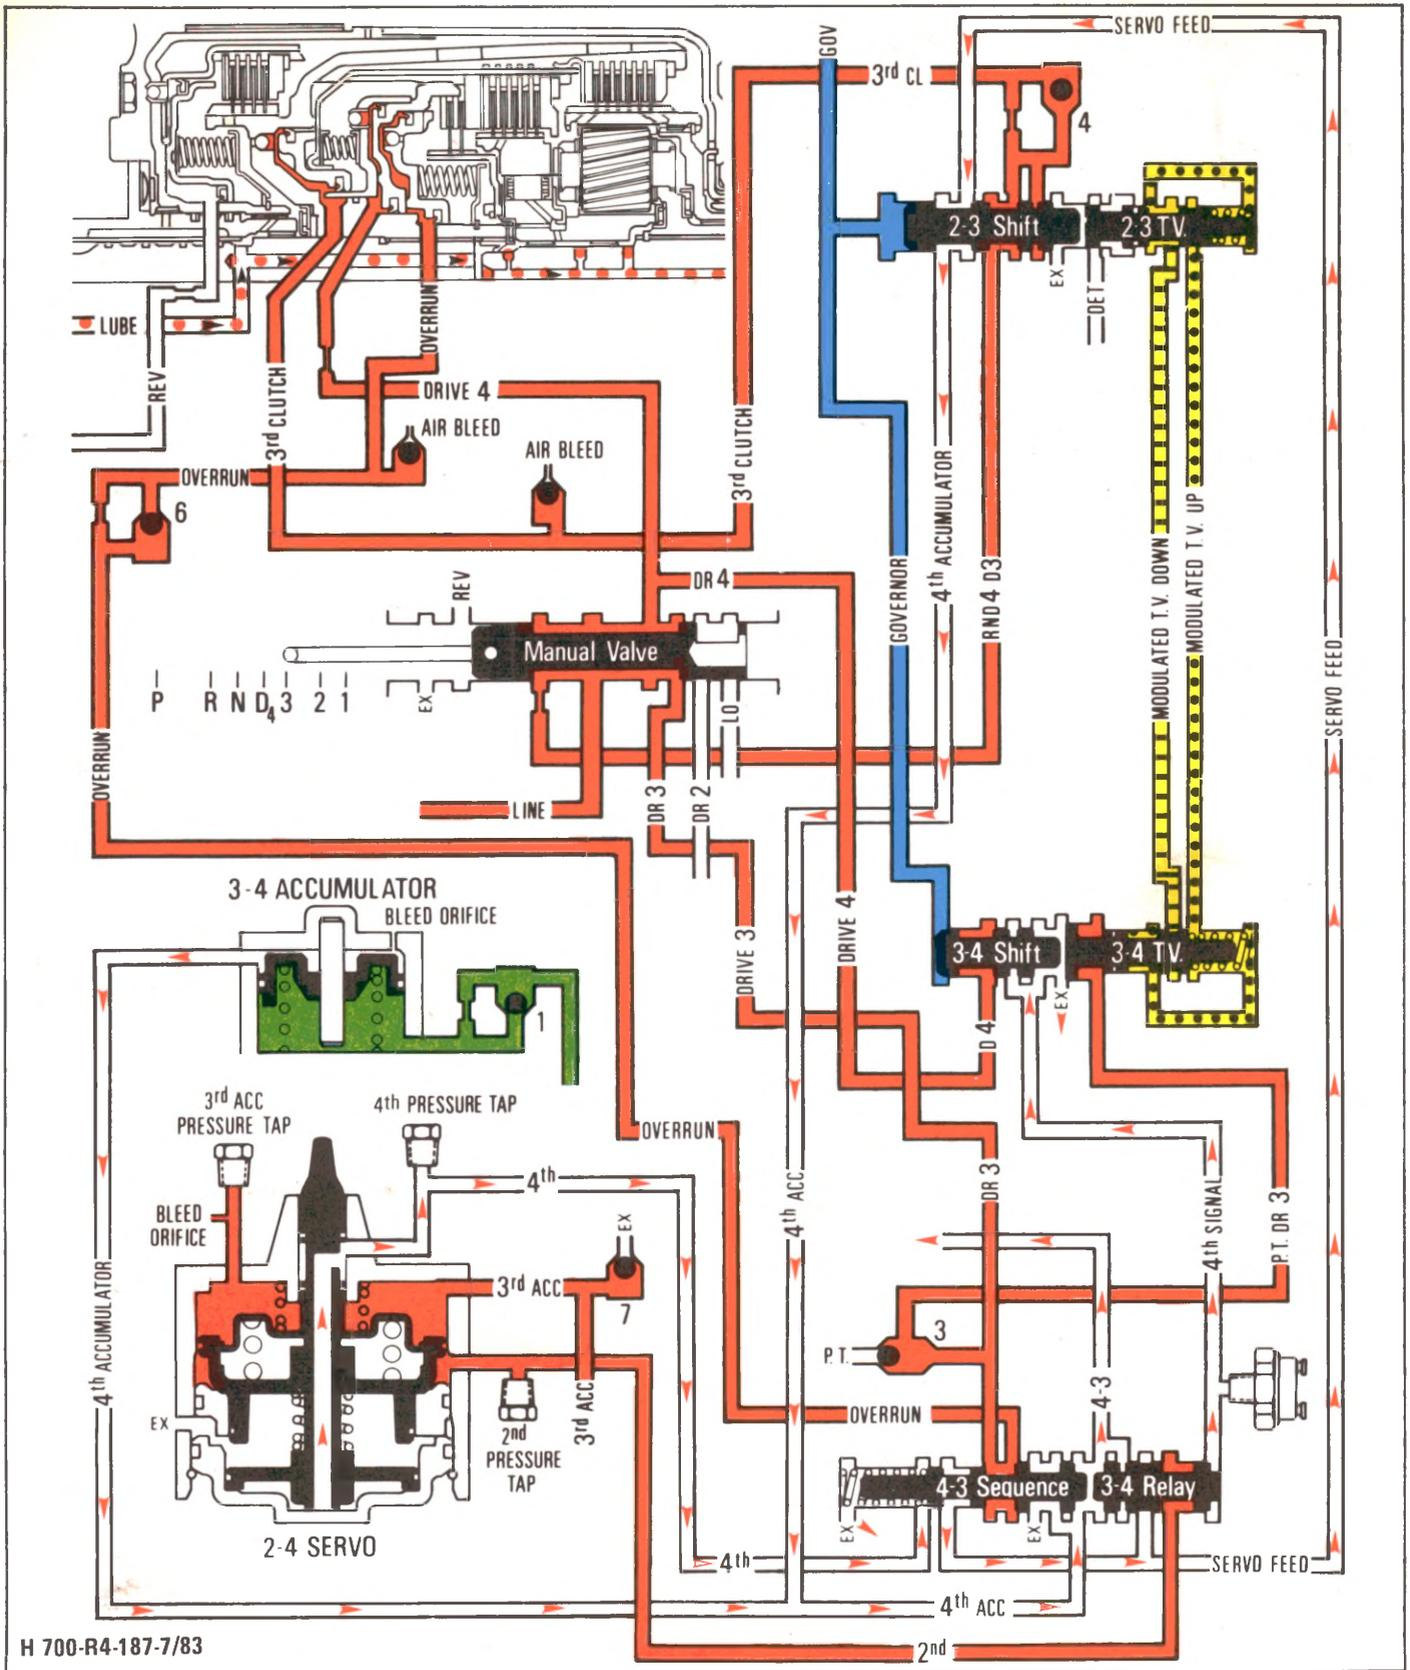

Figure 67 - Manual Third, Valves Shown in Third Gear Position
sition, the manual valve is moved to open the Drive 3 (D3) passage (Fig. 67, pg. 61). D3 oil will seat the D3 part throttle and (3) check ball in the part throttle passage. D3 oil combined with M.T.V. down oil and 3-4 throttle valve spring pressure will close the
Figures 67, 68, and 69 for manual; third, second, and lo, show M.T.V. up and M.T.V. down pressure being present. When a manual range is used for engine braking and there is minimum throttle, as a result of low T.V. pressure, there would be no M.T.V. up or M.T.V. down pressure.